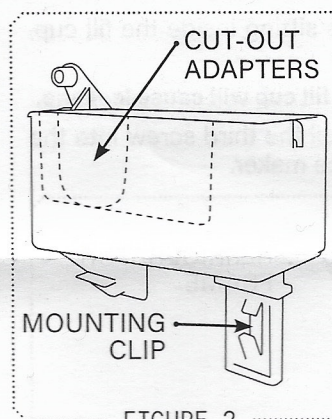

FIGURE 2
7. This ice maker includes the aftermarket exclusive **Universal Fill Cup**. The fill cup has several patterns of breakway plastic molded into the receiving end. This ice maker uses the center-most cut-out. See Figure 2.